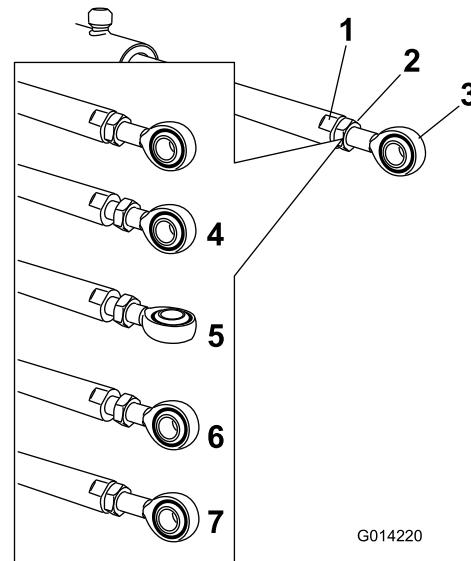

Figure 109
5. Hold the actuator rod at the flats of the rod using a wrench, then loosen the jam nut (Figure 109).
6. Turn the rod end in the actuator rod to shorten or lengthen the extended actuator to the desired position (Figure 109).